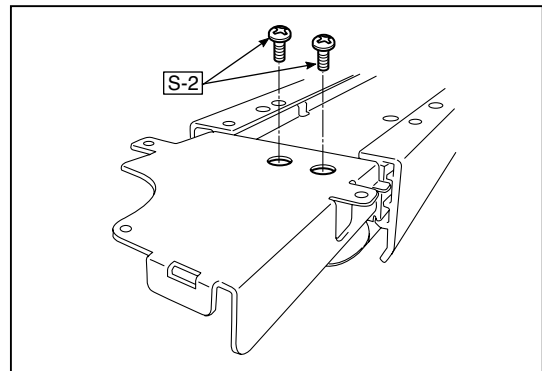

Fig.19
2. Remove the "S-2" screws shown in the figures 19 and 20 and then remove the CIS Unit.